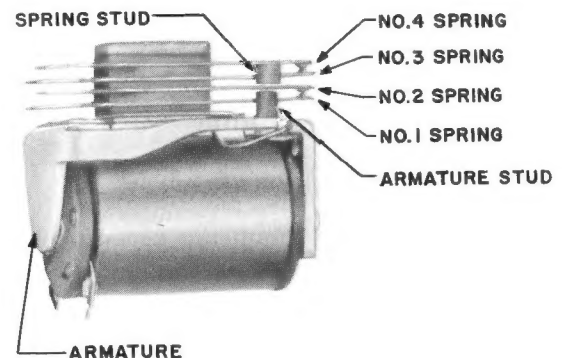

Fig. 3 - General View of Relay
2.06 Contact Pressure: Fig. 3 — The pressure between normally closed contacts shall be
2.07 Stud Gap: Fig. 3 — With the relay in the nonoperated position, the clearance between the armature stud and the No. 2 spring, and between the stud on the No. 4 spring and the No. 2 spring shall be